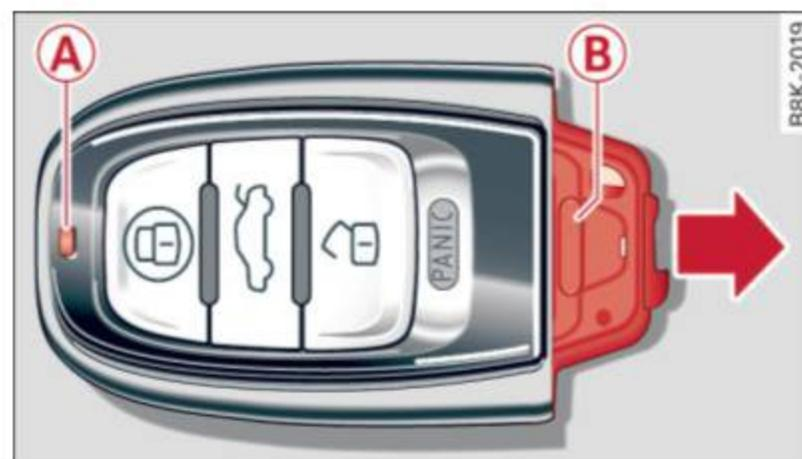

Fig. 21 Remote master key: removing the battery holder
The check light **(A)** ⇒ *fig. 21* in the master key provides information about different conditions.
- ▶ Press the release button **(B)** ⇒ *fig. 21* on the battery holder and at the same time pull the battery holder out of the master key in the direction of the arrow.